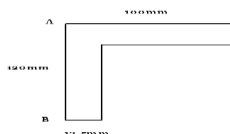

Figure 34
15. An unequal angle section shown in **Figure 34** is used as simply supported beam over a span of 2 m and uniformly distributed load of 10 KN/m, inclusive of its own weight. Determine the maximum tensile and compressive stresses in the section